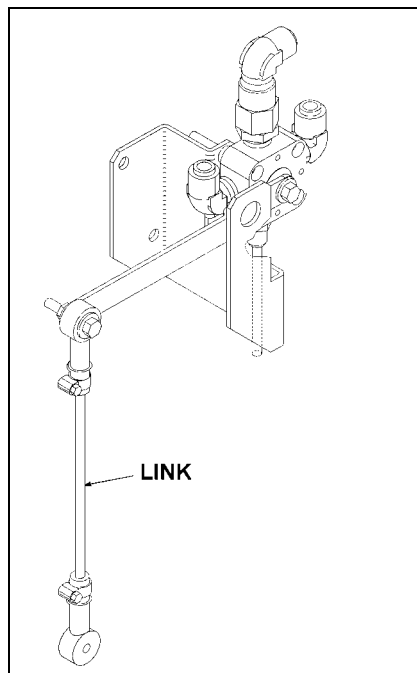

FIGURE 3
- Assemble overtravel lever with link using bolt, washer and nut. For VIP-45 vehicles only, saw the bolt leaving 1/8" (3mm) behind the nut. Insert golf tee in the provided holes located in overtravel lever and valve to lock them together, using the adjusting nuts on the bent rod, try to keep the overtravel lever as horizontal as possible, reconnect the lines. Use the slot on bracket for final adjustment. Refer to figure 3 for a view in perspective of assembly.